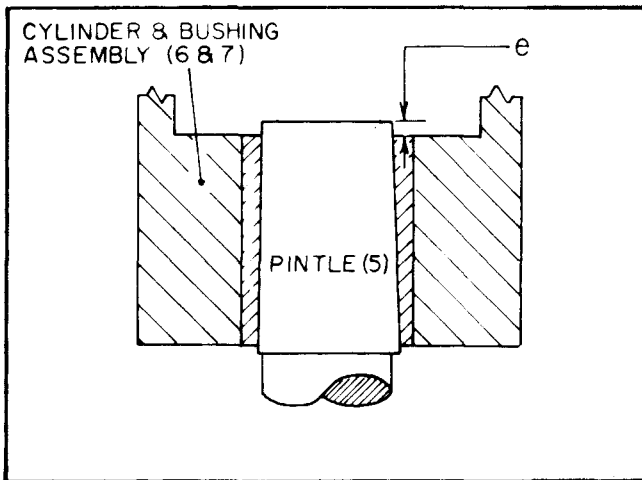

FIGURE 6 TIGHT POSITION
1. PINTLE if pintle (5) was removed, set case with open end facing up in a press (see V-A-g) for force needed). Apply a thin coat of anti seize lubricant on the large tapered surface of pintle and insert pintle into case locating it with key (77). Slip a sleeve over the small pintle end so it rests against shoulder, not pintles small end\*. Press on sleeve until pintle end is flush with back of case. Cylinder bushing (7) and pintle (5) have .005" taper on diameter per inch of length. Suspend cylinder — bushing assembly (6 & 7) in a crane with large end of bore downward. Clean pintle and bushing surfaces thoroughly. Slowly lower cylinder over pintle, do not scrape bushing against edges or pintle ports. Stop when cylinder begins to become tight on pintle. Do not let entire weight of cylinder rest on pintle or cylinder will become too tight and damage the bushing. At this point, pintle should project past the cylinder bushing face the amount shown in V-A-e (see figure 6). Record actual dimension and identify it as "e". Remove cylinder from pintle.